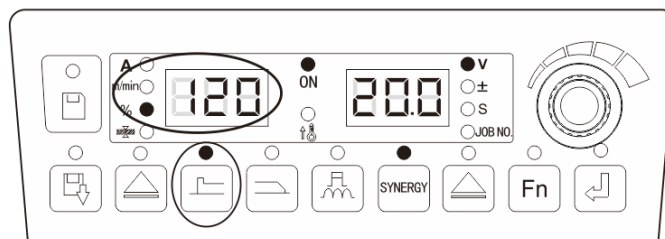

Fig.4-4 Setting Interface of Percentage for Arc Starting Parameter
2. When the “%” indicator is on and the left nixie tube flashes, set up the percentage of wire feeding speed in arc starting status through panel knob. After setting, press "Execute" key to confirm, as shown in Fig.4-4.